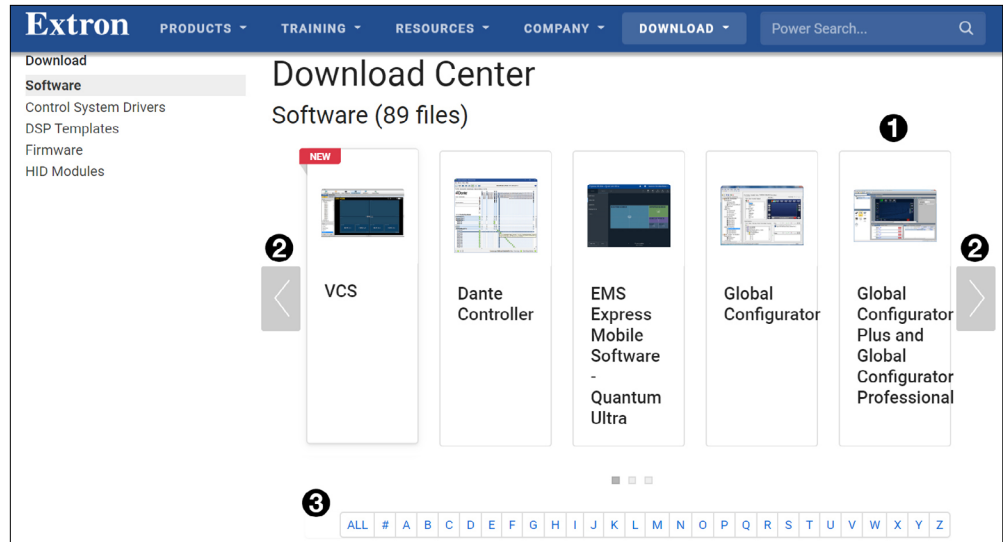

Figure 23. Selecting Software to Download
3. The software may be shown in the panels at the top of the page. Figure 23 (1) shows Global Configurator Plus and Professional. You may need to use the left (<) or right (>) arrows (2) to find the software. If the software is still not shown, click on the initial letter of the program in the alphabet menu (3).
Clicking on the initial letter of the software product (see figure 23, ③, on the previous page) generates a list of software products with that initial letter.